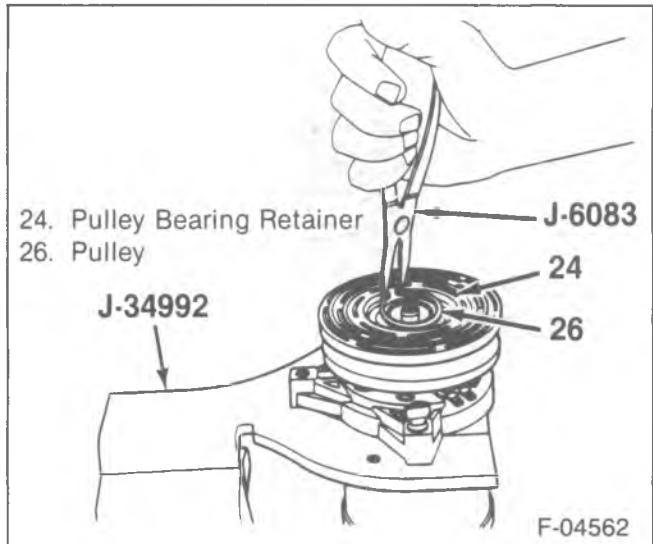

Figure 9—Removing the Pulley Rotor and Bearing Assembly Retaining Ring
1. Clutch plate and hub assembly (22).
2. Pulley bearing retainer (24) using J-6083 (figure 9).
3. Pulley (26).
- Tighten the center screw in J-8433-1 to force the pulley and bearing assembly onto the compressor front head (33).
- 4. Pulley bearing retainer (24) using J-6083 (figure 9).
- 5. Clutch plate and hub assembly (22).